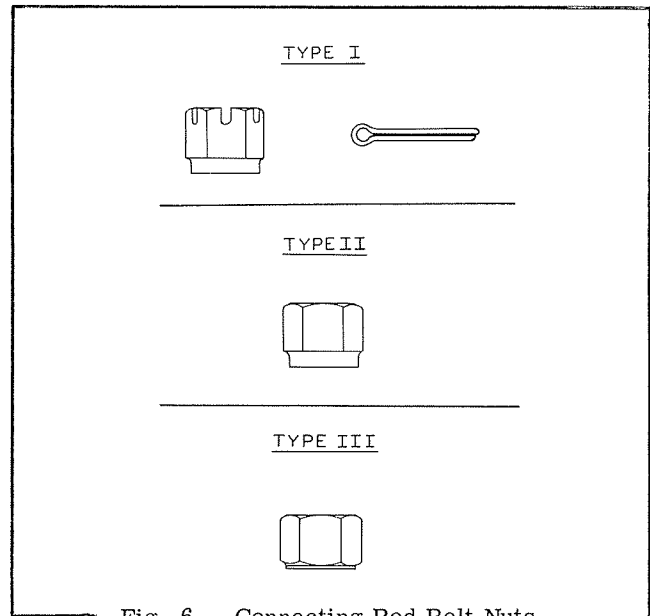

Fig. 6 — Connecting Rod Bolt Nuts
4. Three types of connecting rod bolt nuts, Fig. 6, have been used in engines covered in this manual. It is recommended that whenever connecting rods equipped with Type I or Type II nuts are installed in an engine, the old nuts be discarded and replaced with the Type III nut (Part No.